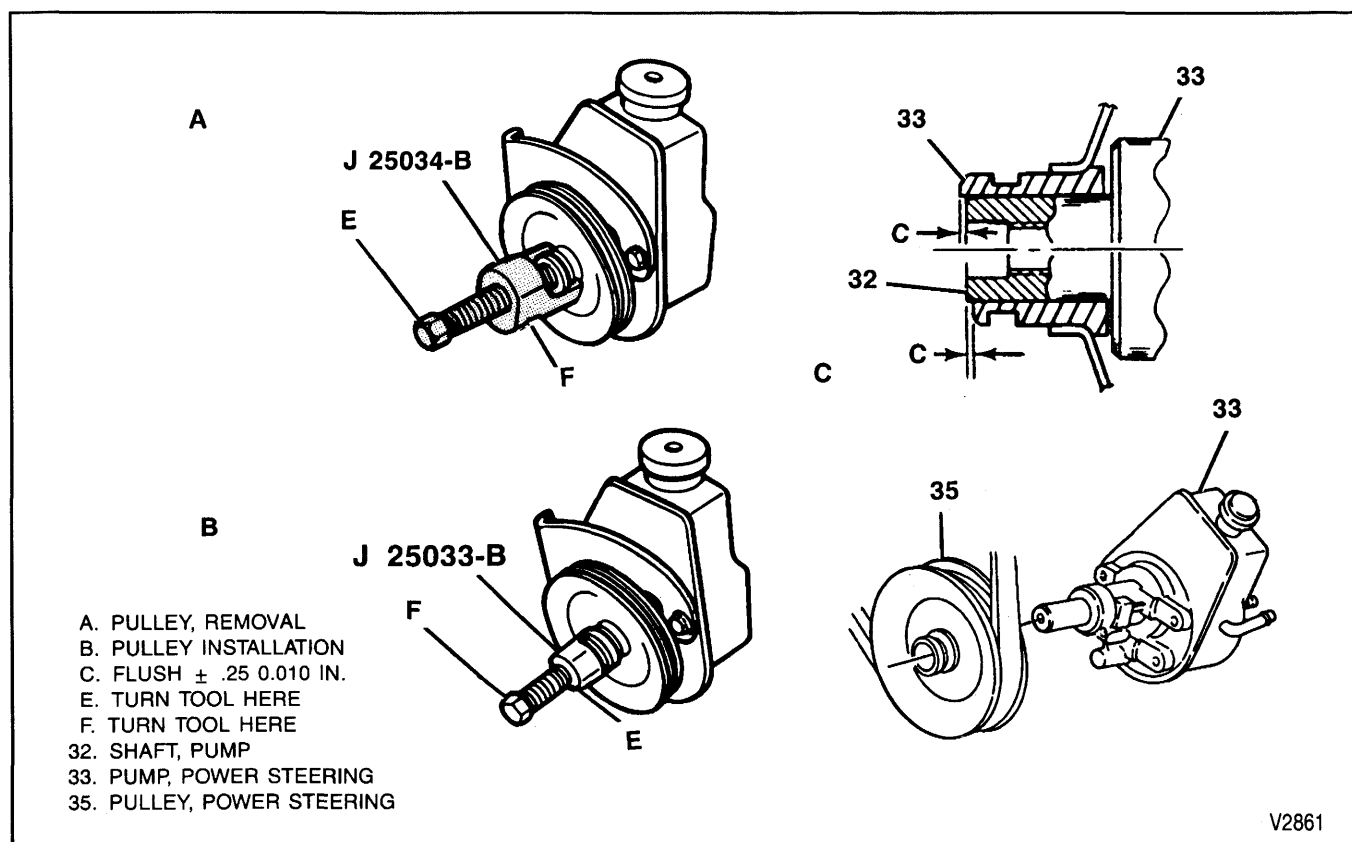

Figure 13—Replacing Steering Pump Pulley
Remove or Disconnect (Figures 13 through 17)
4. Pulley (35).
- Install J 25034-B. Be sure the pilot bolt bottoms in the pump shaft by turning the nut to the top of the pilot bolt (figure 13, A).
5. Front mounting bolts (36) (4.3L, 5.0L, and 5.7L engines).
6. Rear brace (38) (7.4L engines).
7. Front brace (38) and rear mounting nuts (43) (6.5L diesel engines).
8. Pump (33).
Install or Connect (Figures 13 through 16)
- Install J 25033-B. Be sure the pilot bolt bottoms in the shaft by turning the nut to the top of the pilot bolt (figure 13, B).
- Install pulley flush ± 0.25 mm (0.010 in.) with the end of the power steering pump shaft (figure 13, C).